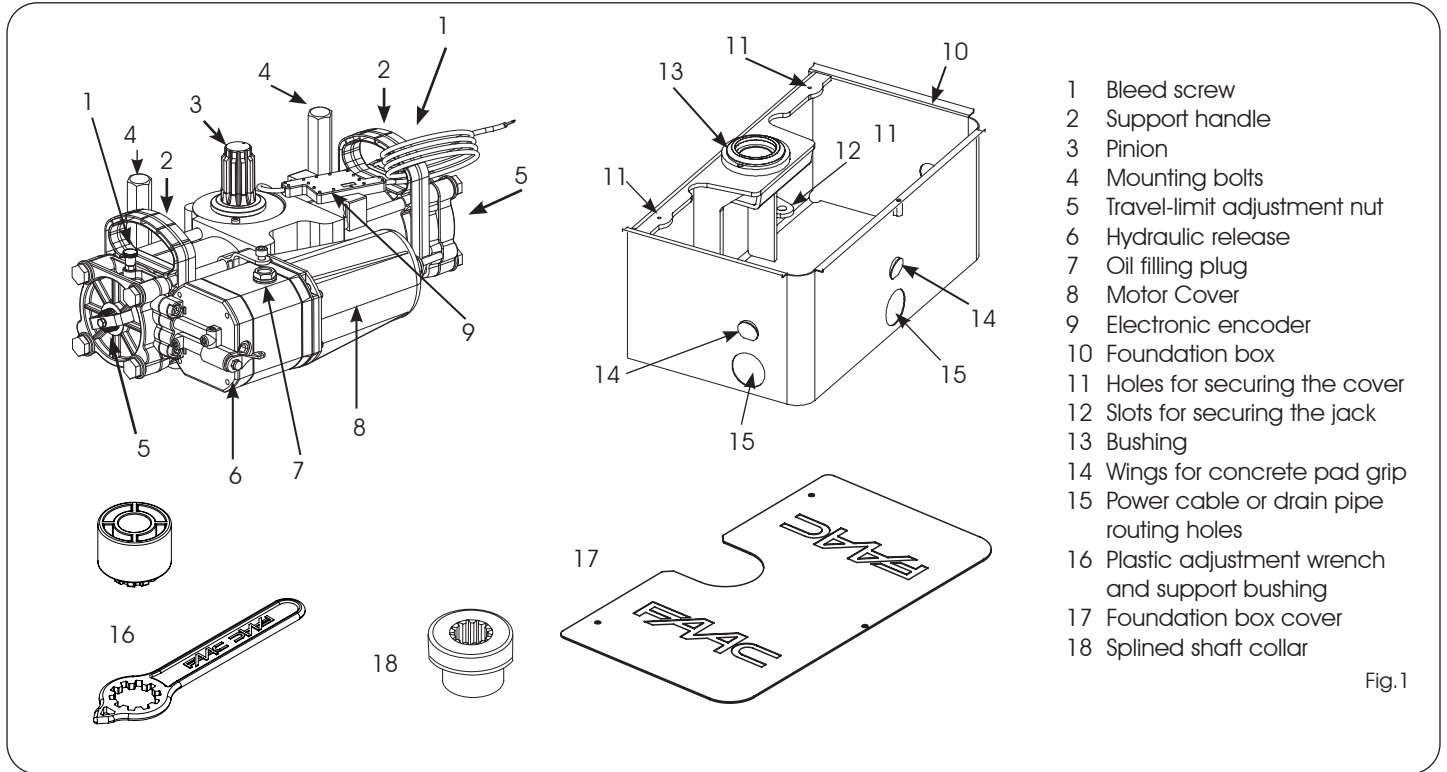

Fig.1
- 1) Connect the motor (Fig.1 ref.8) and the encoder (Fig.1 ref.9) to the control unit, following the specific instructions.